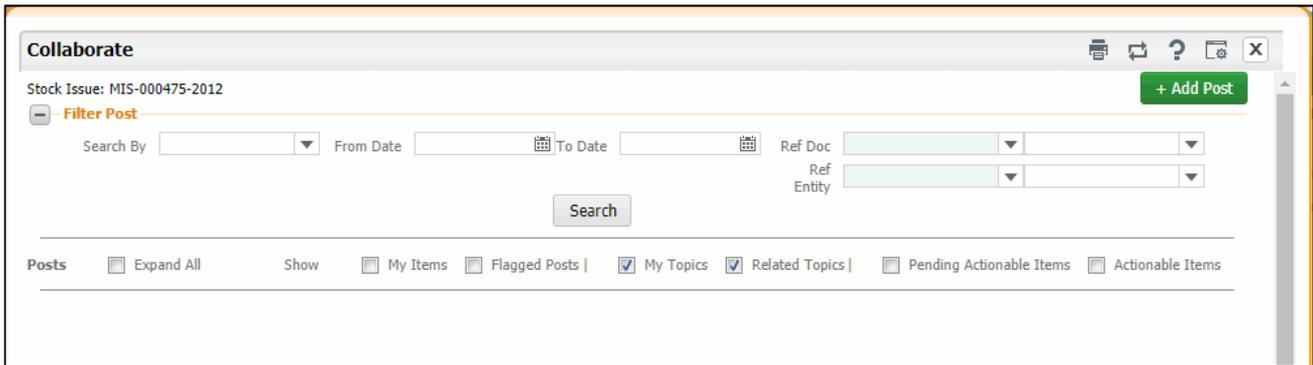

Figure 2.4 Searching for a post
1. Click **+** **Filter Post** in the Collaborate popup. *See Figure 2.4*